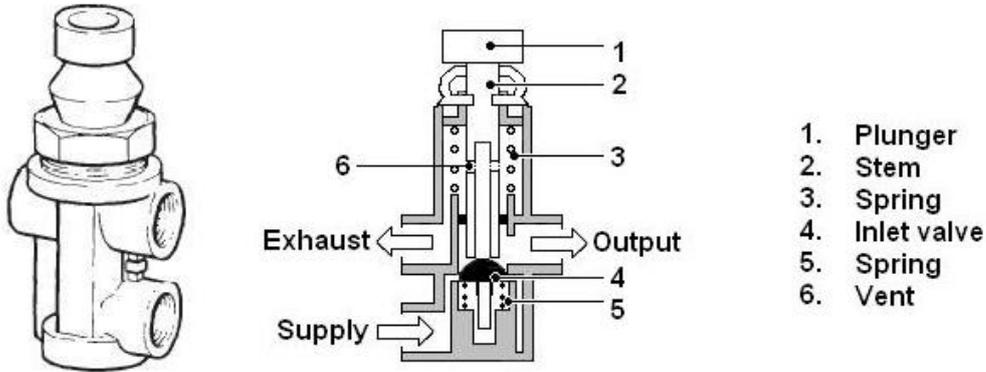

Figure 40 Engine Brake, 3/2-Way Valve
**88. Engine Brake Valve.** The engine brake valve (Figure 40) is an example of a three-way, two position directional control valve with mechanical actuation. This means it has two operational positions and three ports. In this case, the positions are ON and OFF, and the ports are supply output to a load and an exhaust. In the normal (OFF) position, the air supply to the input port is stopped by the closed inlet valve (Item 4). When the plunger (Item 1) is depressed, the hollow stem (Item 2) first seals on top of the inlet valve and then opens the valve and allows the air to pass through the output port to the load. When the plunger is released, the stem returns to its upper position under the pressure of the spring (Item 3) and the inlet valve closes under the pressure of the spring (Item 5). The output line is exhausted through the vents (Item 6) to the exhaust port.